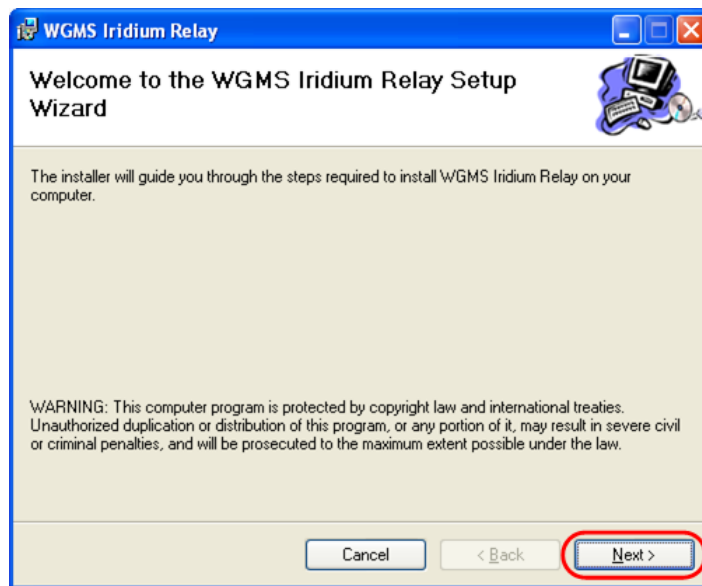

Figure 5-3: Iridium Relay Installation Welcome Dialog
- 2) Run SETUP.EXE from the directory where the file was placed². This should bring up the “Welcome” dialog shown in Figure 5-3.